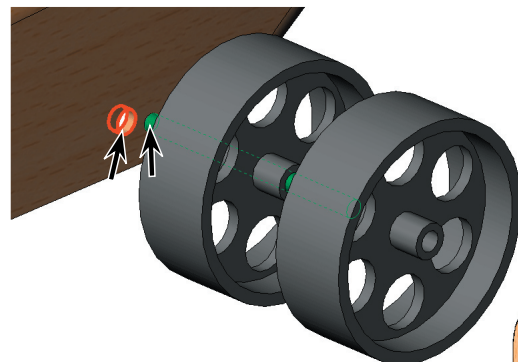

Fig. 12
Step 8. Click **cylindrical face of axle** and **cylindrical inside face of axle hole in body**, **Fig. 12**.